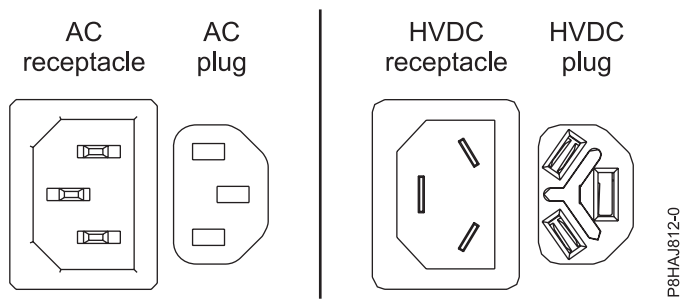
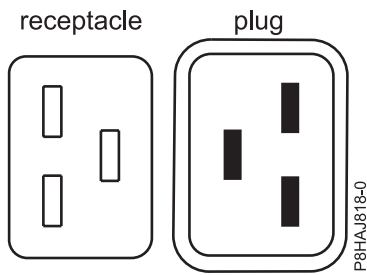
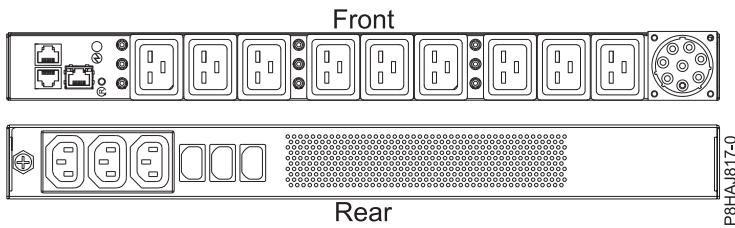

Figure 48. AC and HVDC connectors
Figure 49. Connectors for the 8408-44E system
Figure 50. PDU for the 8408-44E system
Figure 48 shows the supported alternate current (AC) and high voltage direct current (HVDC) connectors. Figure 49 and Figure 50 show the supported connectors and power distribution unit (PDU) for 8408-44E.